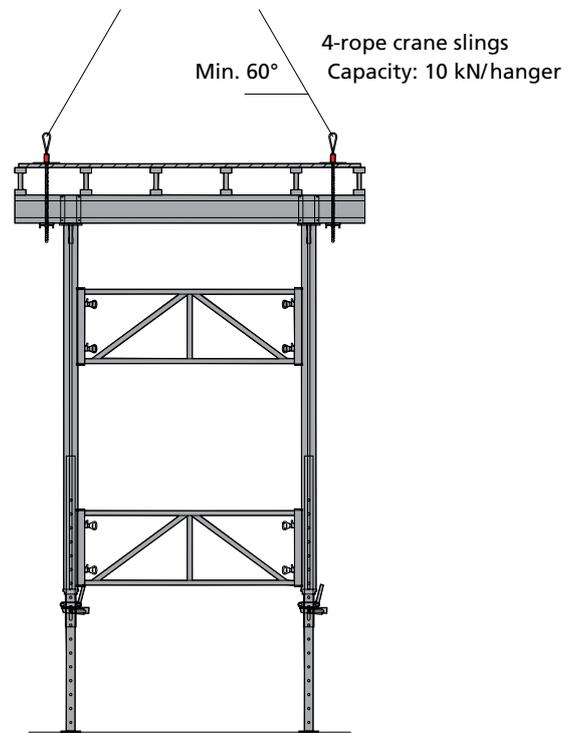

Fig. 27.3
- Or by securing the the crane hanger with a flange nut 100 (Fig. 27.3 and 27.4)